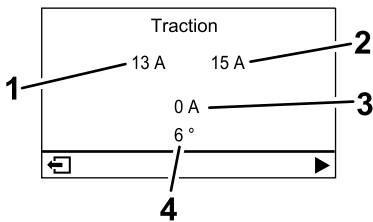

Figure 19
- Traction motor screen (Figure 19):** shows the current steering angle and the amperage allotted to each traction motor.